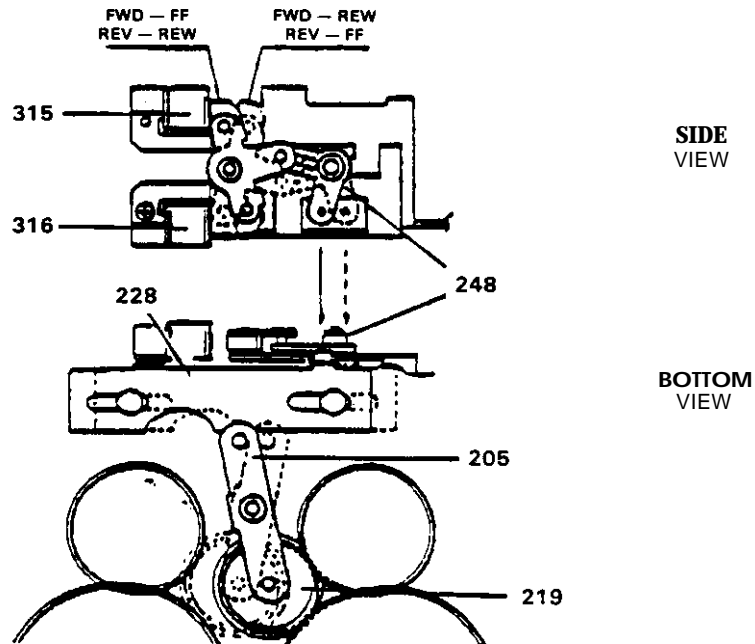

FIGURE 3-10. FF/REWIND MODE
4. Auto Reverse Function - As the Cassette Tape in PLAY mode reaches the end of the tape, the Reel Gear (222) stops turning. This is detected by the Photo-interrupter (312), and the Program Solenoid (314) is then de-energized momentarily for FWD/REV switching.
5. FF/REW Mode - When the FF or REW switch is pushed, the FF/REW Solenoids (315 and/or 316) are de-energized, the T-Crank (214), FF Crank (248), FF Plate (228), and FF Arm (205) all move to interlock the FF Gear (219) with Reel Gear (222) for FF or REW of the Cassette Tape, (see Figure 3-10).